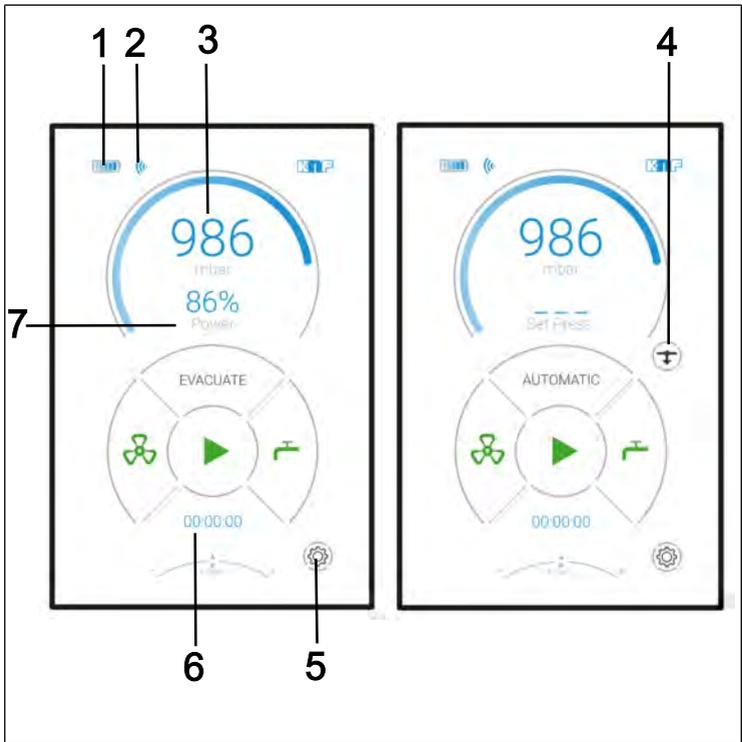

Fig. 14: Displays on the touchscreen
- Displays of the most important process variables (Fig. 14);
To select the menu language, go to Settings (Fig. 14/5).
- To end "temporary pressure regulation", the process must be stopped by pressing the symbol (Fig. 14/4).
If a boiling point is detected in *Automatic* mode, the process remains at the detected boiling point (actual pressure) and switches to a temporary pressure regulation mode. If pressure reduction (Fig. 14/4) is inactive, regulation remains permanently at the detected boiling point. If pressure reduction (Fig. 14/4) is active, an attempt is made to approach the next boiling point after about 30 seconds. When pressure reduction is active, this process is repeated continuously (see Fig. 20).
If automatic pressure reduction (Fig. 14/4) is then activated again, the arrow spears in the display again after about 25 seconds.